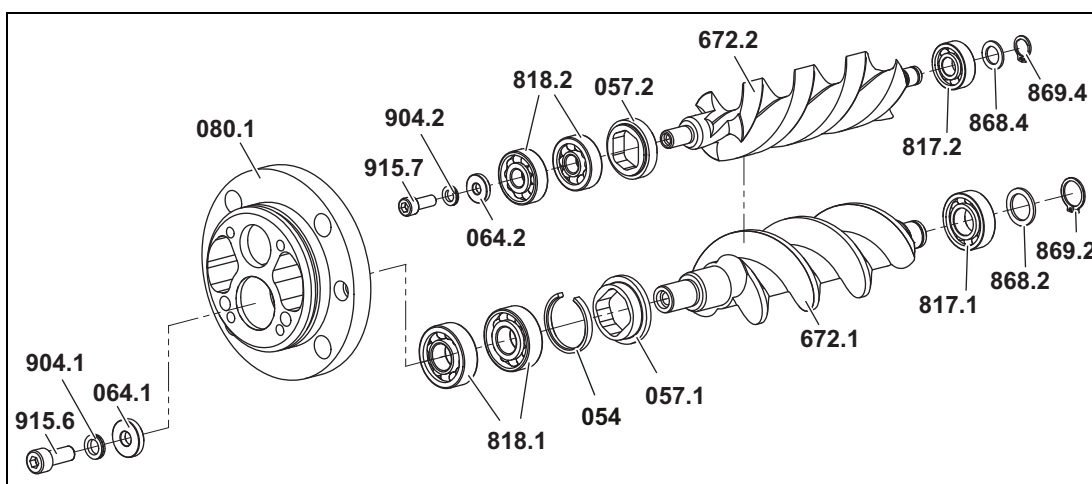

Fig. 17
9. Remove the circlips **869.2** and **869.4** and support rings **868.2** and **868.4** from the measuring screws, see Fig. 17, page 34.